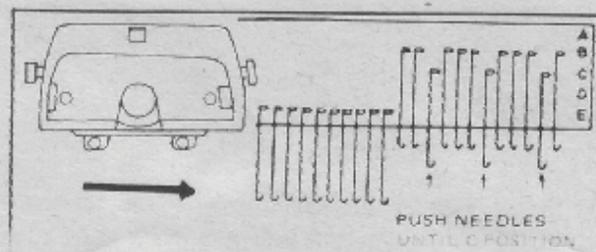

Fig. 2
5. After passing the knitting yarn underneath the needle next to the last needle knitted, push the needles which have tucked stitches at E position to C position as shown in Fig. 2, and knit one row.